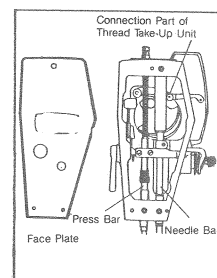

Fig. 9
b) In the case of a new machine, which was delivered a long time previously, or of a machine which has not been run for a long period, apply oil with the filling tube two or three times on the friction parts of the Thread Take-Up unit, Needle Bar and other units. (See Fig. 9)